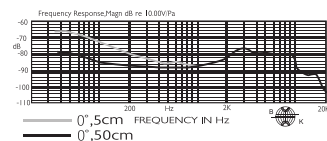

Figure 1
**Frequency Response:** 20 to 12,000Hz (see Figure 1)